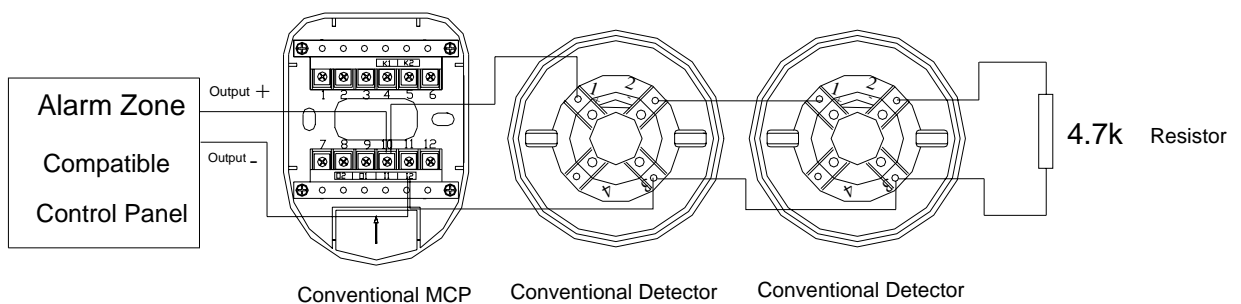

Fig. 7
- When the detector is connected with compatible fire alarm control panel, if a terminal resistor is connected to the end of output loop, then no diode is connected to the detector base. The system composition is shown in Fig. 7.